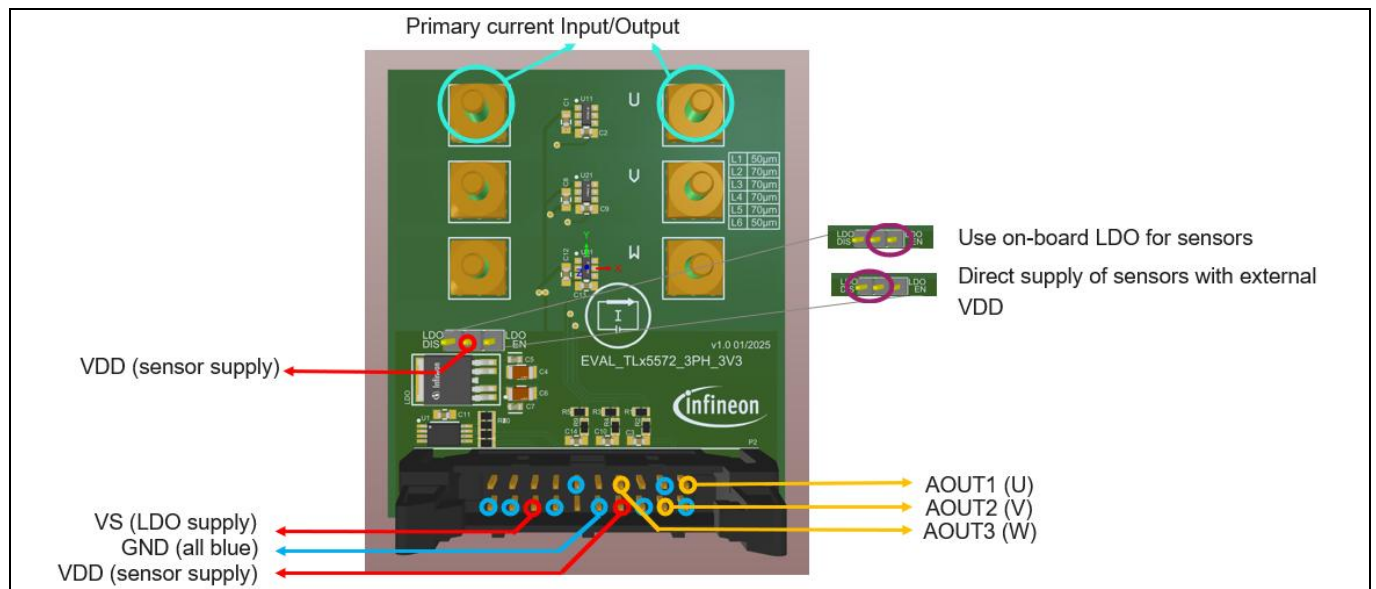

Figure 7 Pinout
Supply the voltage via pin 16 (VS, low-dropout (LDO) regulator input). To enable the onboard LDO, pin 19 Enable (EN) must be connected to the same supply voltage. For a 3.3 V LDO output, VS must be 3.6 V, and for a 5 V LDO output, VS must be 5.5 V. See Figure 7 for the complete pinout of the evaluation board connector.
Measure the output voltage of the three sensors from the evaluation board connector. See Figure 7 for the complete pinout of the evaluation board connector.